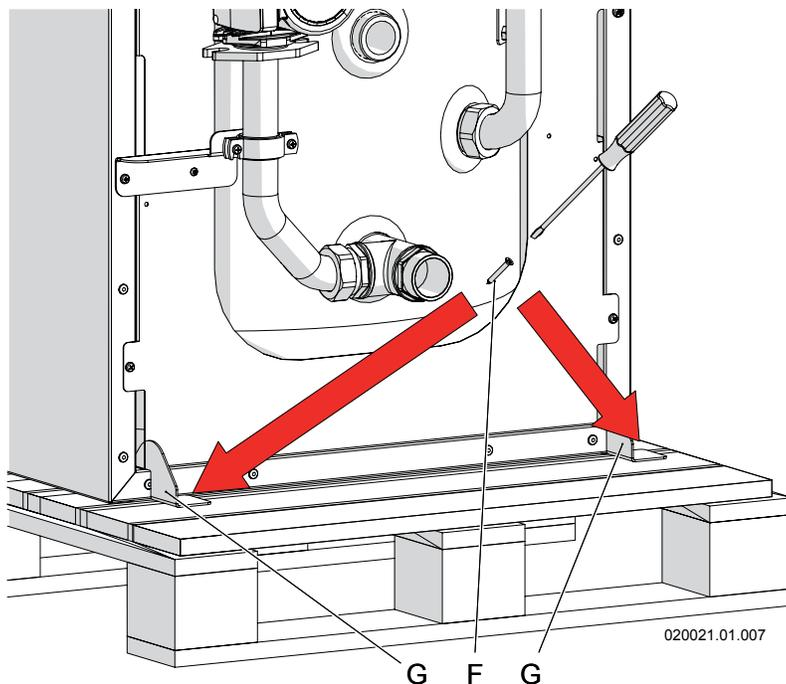

Figure 6-2 Remove heater from wood pallet (back)
3. Remove the locking bracket "G" by the screws "D" in the rear of the unit (Figure 6-2).